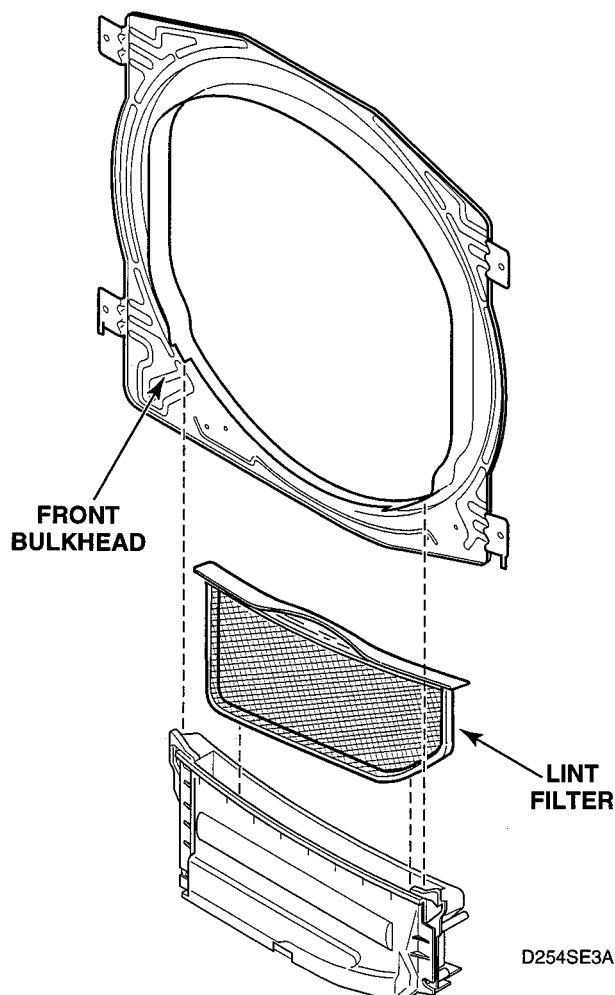

Figure 5-23
29. CYLINDER LIGHT (FIGURE 5-23)
- d. Open loading door and remove screw holding lens to the front bulkhead. See figure 5-23.
30. CYLINDER LIGHT RECEPTACLE (Figure 5-23)